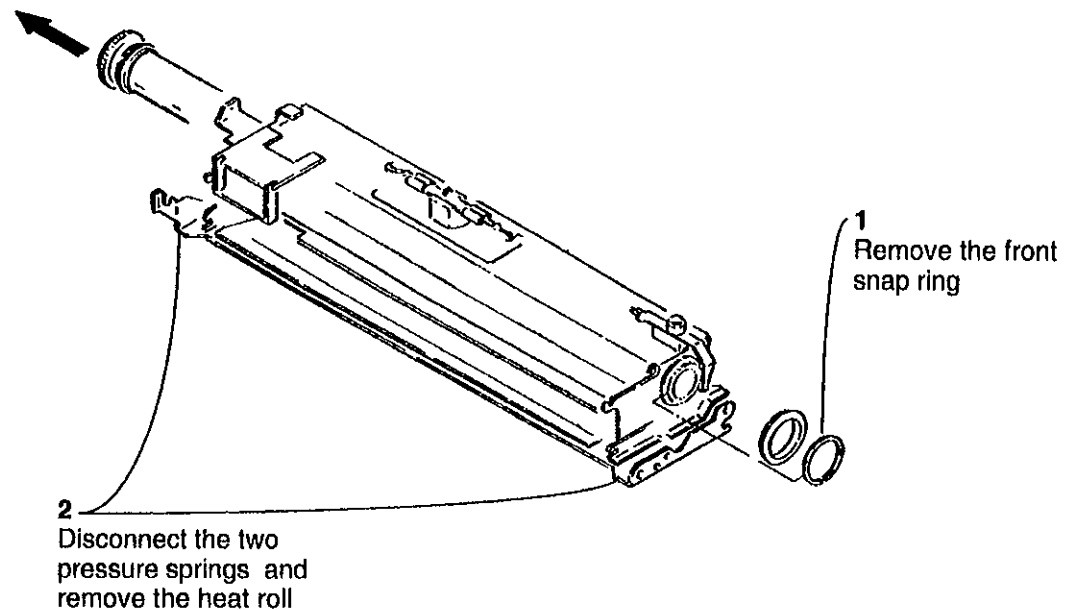

Figure 1. Removing the Heat Roll
- 7 (Figure 1) Remove the heat roll.